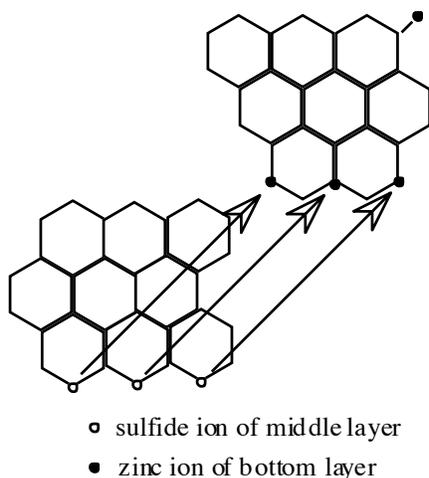

Fig. 7 Placing the middle layer over the bottom layer.
- The middle layer can now be put in place over the bottom layer and bonded to it. Align the sulfide ions of the middle layer over the bonds pointing up from the bottom layer, and push the layers together. (Fig. 7)